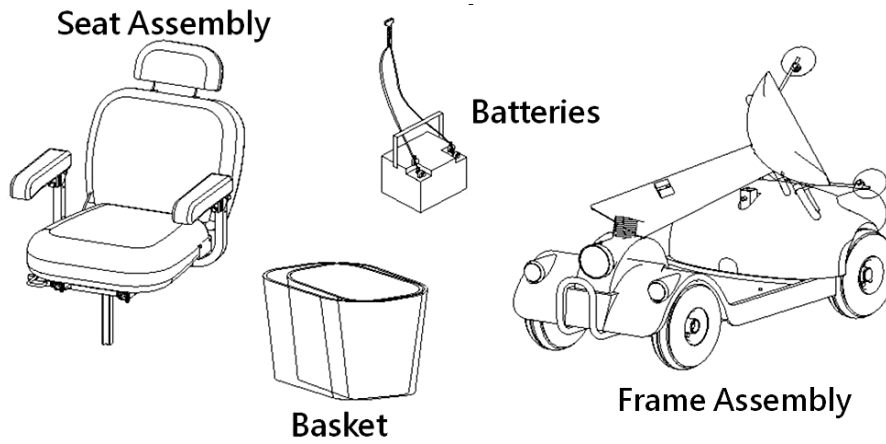

FIGURE 7.2
7.7.1.7 Tilt down the steering column all the way. (See Figure 7.2)